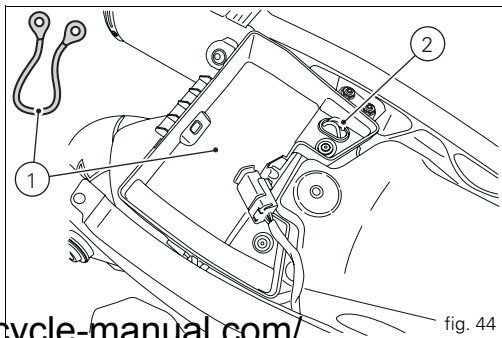

fig. 44
The helmet cable (1) is located at the rear of the compartment under the seat (see fig. 44). Pass the cable through the helmet and insert the end of the cable in the pin (2). Leave the helmet hanging and refit the seat to hold it in place.